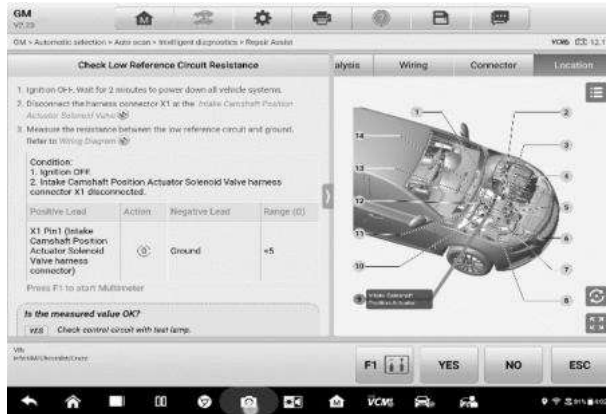

Figure 5-24 Sample Repair Assist Screen 5
- In some cases, it is necessary to check the circuits. Take **Figure 5-24** for example, tap the first **Link icon** to open the *Location Diagram*, and it will show the location of the component *Intake Camshaft Position Actuator Solenoid Valve* in the car.